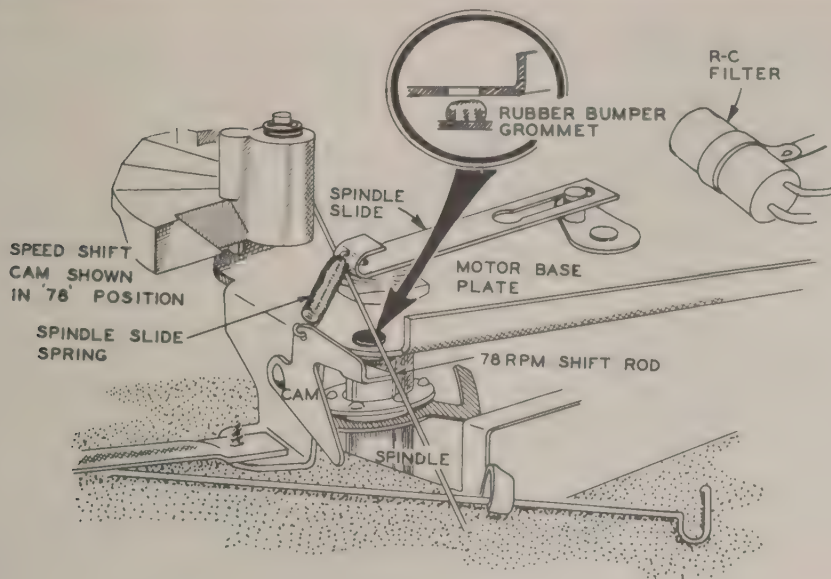

Figure 11
- () With the changer positioned as shown in Figure 11, install the spindle slide on the main gear crank pin. The crank pin should slip into the slot in the spindle slide. Pull the spindle slide toward the spindle until the spindle levers can be inserted into the hole at the end of the spindle slide.
- () Hook the free end of the spindle slide spring through the hole in the "V" shaped cam near the lower end of the spindle. See Figure 11. The 78 rpm shift lever must be between the spindle slide spring and the motor base plate.
- () Place the small rubber bumper grommet (bag "F") in the hole in the motor base plate as shown in Figure 11. Install this bumper grommet so that the ear of the "V" shaped cam will rest on the flat side of the grommet.